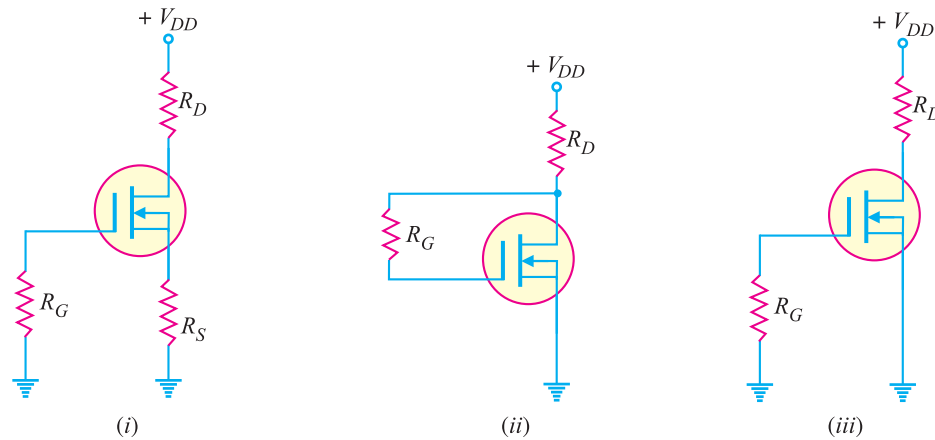

Fig. 19.66
8. Determine in which mode each *D-MOSFET* in Fig. 19.66 is biased.